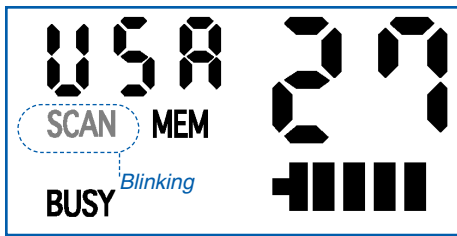

Fig. 13f: Blinking Scan Indicator
- The SCAN indicator will flash when the radio is either receiving, or pausing before continuing to scan. (Fig. 13f)